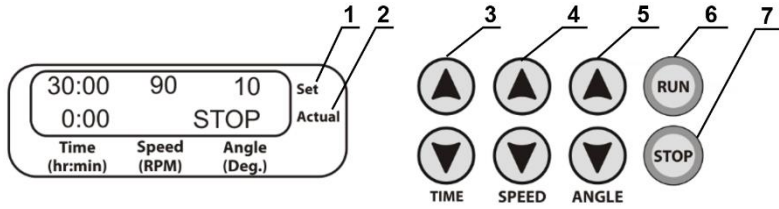

Figure 2. MR-12, control panel
- 5.2.3. Display shows previously set time, speed and angle in the upper **Set** line (fig. 2/1), and elapsed time and mode indication in the lower **Actual** line (fig. 2/2).
- 5.2.4. **Setting time.** Using ▲ and ▼ **TIME** keys (fig. 2/3), set the necessary time interval in hours and minutes (step 1 minute).
- 5.2.5. **Setting speed.** Using ▲ and ▼ **SPEED** keys (fig. 2/4), set the necessary mixing speed in rockings per minute (step 1 RPM).
- 5.2.6. **Setting angle.** Using ▲ and ▼ **ANGLE** keys (fig. 2/5), set the necessary angle in degrees (step 1°).
- 5.2.7. Press the **RUN** key (fig. 2/6). Platform begins movement and timer starts counting elapsed time. Speed and angle can be changed during operation (but not time).
- 5.2.8. If the time interval is set to 0:00, then pressing the **RUN** key puts the unit in continuous operation mode, until the **STOP** key (fig. 2/7) is pressed.
- 5.2.13. If the platform is overloaded, the device will make three attempts to restart the operation (display indication: DRIVER ERROR). If attempts fail, flashing OVERLOAD indication shows on the display, accompanied by a repeating sound signal, until the **STOP** key (fig. 2/7) is pressed. Eliminate causes of overload before restarting operation.